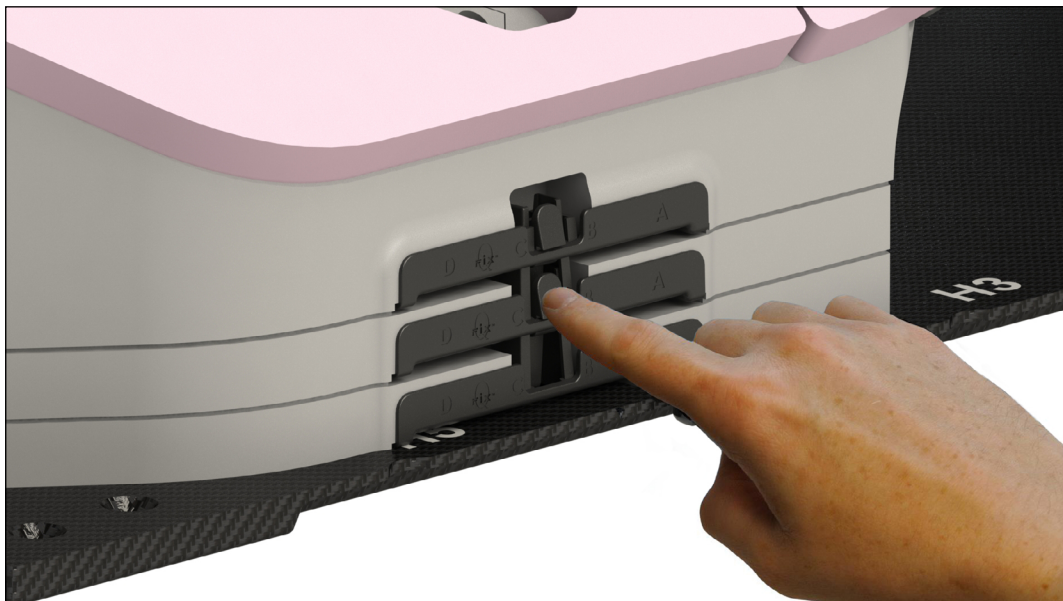

Fig. 10
4. To decrease the height of the device, remove the Access Prone G2 or Access Prone Breast Device. Press in release button on each side of indexing plate. (Fig. 10)